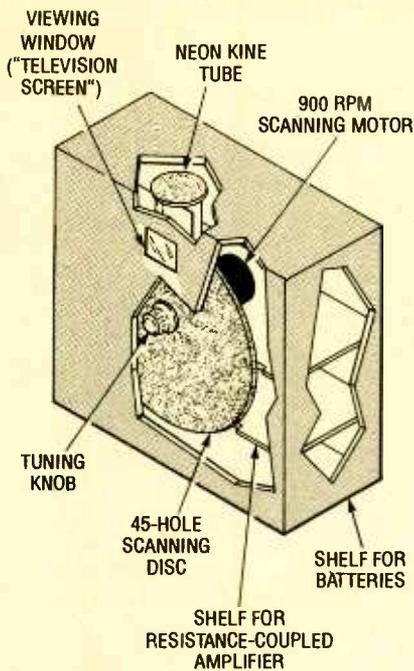

Fig. 1. This is a phantom view of a mechanical television receiver. Notice the relationship between the view screen disc and neon kine tube.
Inside the Transceiver. Figure 1 is a complete schematic diagram of the Ultrasonic CW Transceiver. The circuit consists of little more than a pair of 567 phase-locked loop IC's and eight transistors—seven 2N3904 general-purpose NPN silicon transistors and one MPF102 N-channel JFET. The remaining circuit elements serve support functions.
Fig. 1. The Ultrasonic CW Transceivers consist of little more than a pair of 567 phase-locked loop IC's and eight transistors—seven 2N3904 general-purpose NPN silicon transistors and one MPF102 N-channel JFET. The remaining circuit elements are nothing more than support components.
cable was used to connect the piezo transducer to the circuit. Assemble the circuit using Fig. 1 as a wiring guide.
First he prepared the shiny, 24-inch 20-gauge aluminum disc. Grandfather used a compass to find the center of the disc. Then he marked 45 even pie wedges on the disc. Next, he measured and center-punched the locations for 45 holes. He arranged these holes in three spirals. On a local machine shop's drill press, Grandfather drilled the center hole and the 45 "scanning holes". Then he located a large radio knob with a wide apron in his junkbox. He bolted the apron to the disc (see Fig. 1) with the knob's hole aligned with the center hole of the disc.
Oliver Lodge had spent only about two weeks performing some preliminary "alternate-path" experiments to confirm his theories prior to the lectures. He had used Leyden-jar discharges to simulate lightning flashes. The Leyden jars were usually charged using a "Voss machine" that generated static electricity through friction. The experimental arrangement used by Lodge is shown in Fig. 1.
Fig. 1. This is a depiction of the apparatus used by Lodge to demonstrate that lightning is a high-frequency discharge. It would rather flow through the high DC-resistance air gap (B) rather than the low DC-resistance wire (L).